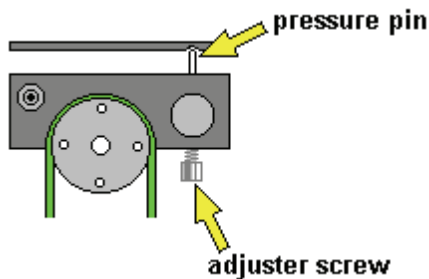

Figure 40 Pressure pin and adjuster screw
7. Turn the pressure block pin carrier until the pressure pin latches into its bracket, as shown in Figure 40.
8. Tighten the adjuster screw, as shown in Figure 40, until sufficient pressure is applied to the pump tubing to enable the sipper to pump efficiently.